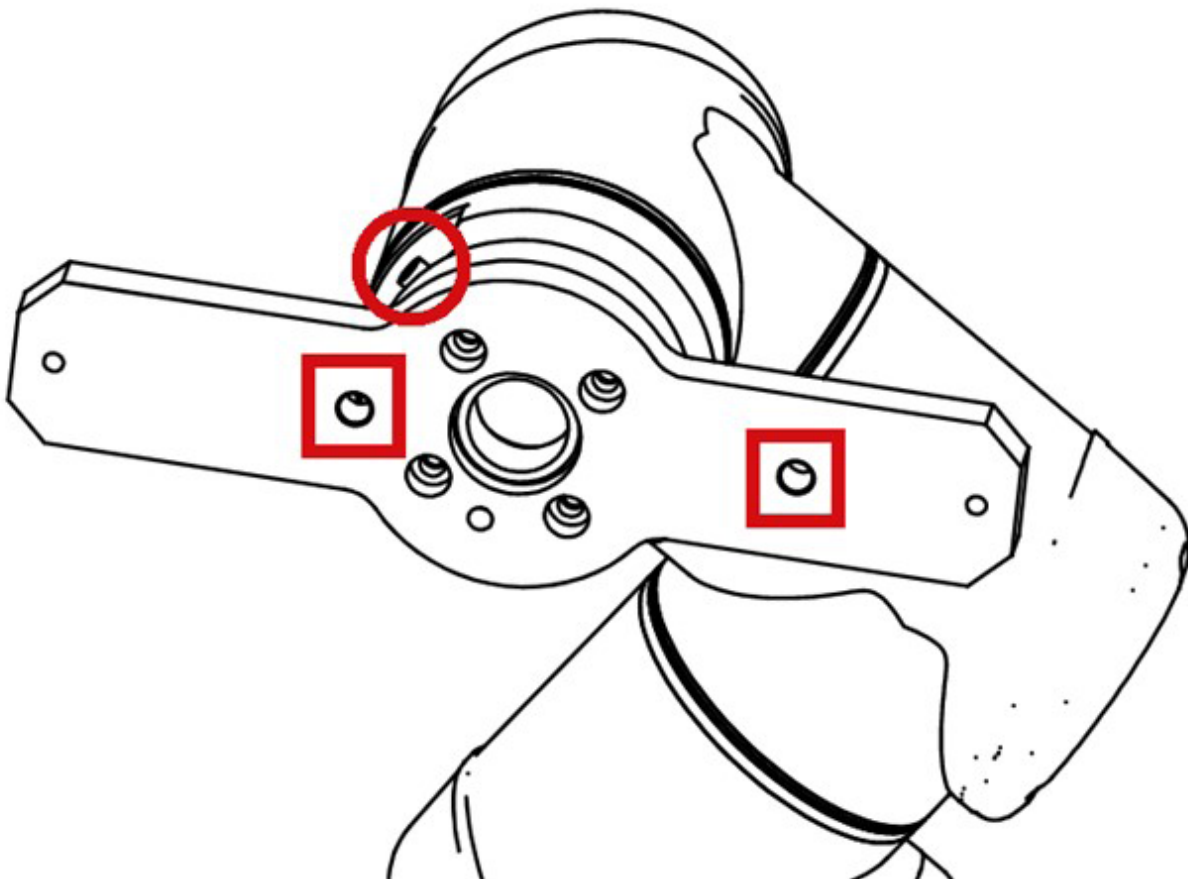
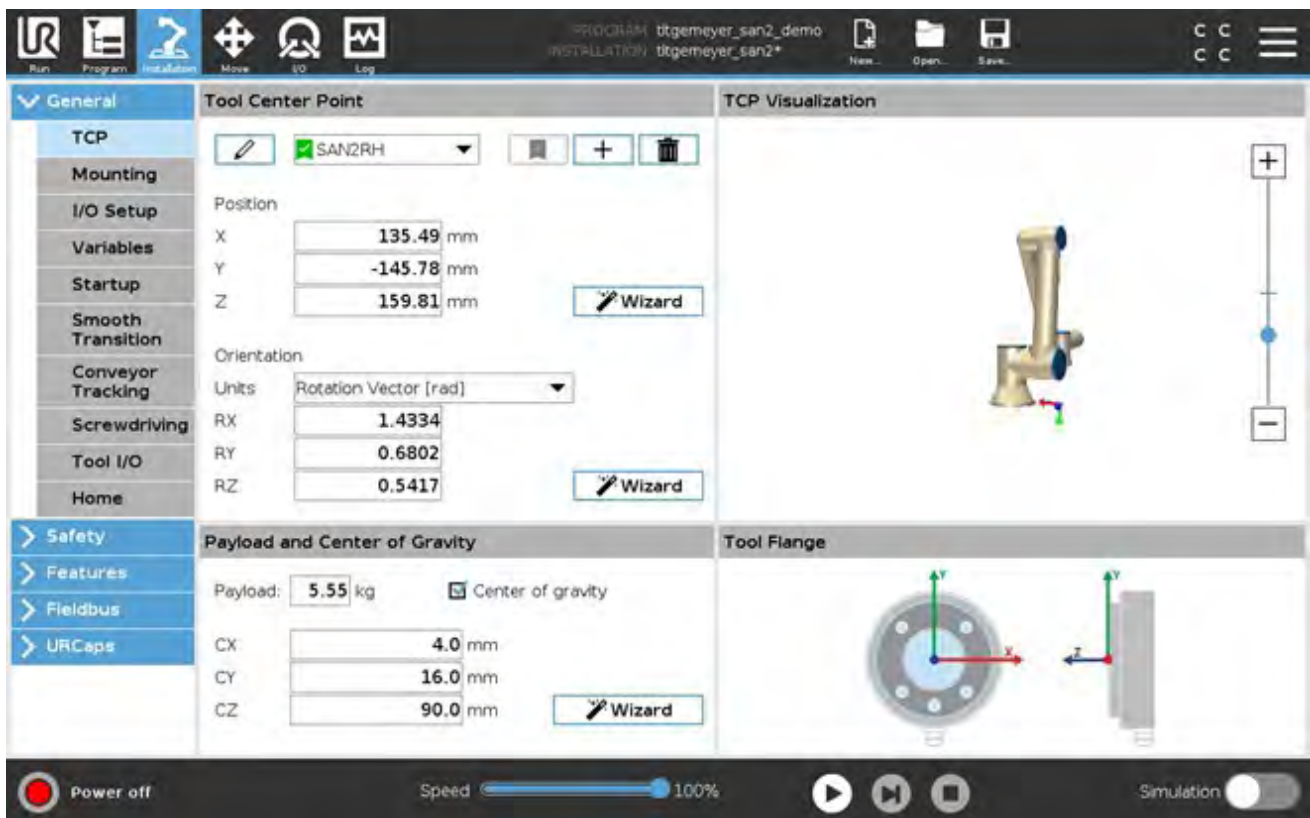

Figure 2 Standard orientation of the flange mounted on the robot arm
Figure 3 TCP settings for standard SAN2 head orientation
- The riveting head has to be mounted on the robot arm. The mounting plate between the robot TCP and riveting head is provided as a special accessory. When mounting the flange if possible, please follow the orientation showed in Figure 2. This orientation is considered when setting the TCP/Tool coordinates and orientation. In case this orientation does not suit your application (e.g. robot violates its working envelope), different orientation is possible. However, the TCP/Tool orientation has to be setup accordingly
First of all, the TCP has to be set. It is recommended to create a new tool and name it e.g. "SAN2RH" or "RivetingHead". Regarding the standard assembly orientation depicted in Figure 2, all TCP values are shown in Figure 3. If the riveting head does not follow the standard orientation, new values has to be entered. Recommended way to compute them is to use the Wizard.